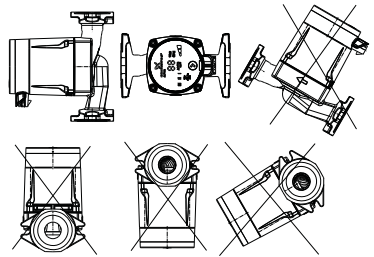

Fig. 2 Installation positions
- Install the pump with the motor shaft horizontal; See fig. 2.